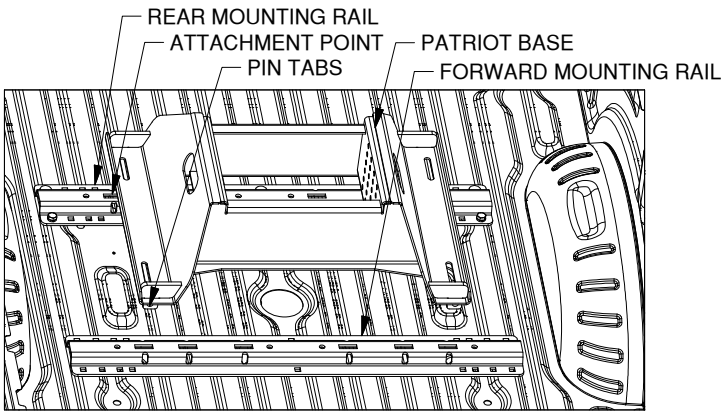

Figure E1: View into truck bed looking toward tailgate.
1. **Position the forward mounting rail.** For this step the base which will be used in the mounting rails is required. Place a mounting rail into the truck bed in front of the rear mounting rail. Place the base over the rail attachment points and carefully lower it until the pin tabs pass through the attachment points on the rear mounting rail. Attach the forward mounting rail to the forward mounting points on the base. The base should rest flat against the top of the rails, see Figure E1. With the base still attached ensure that the forward rail is centered in the truck bed.